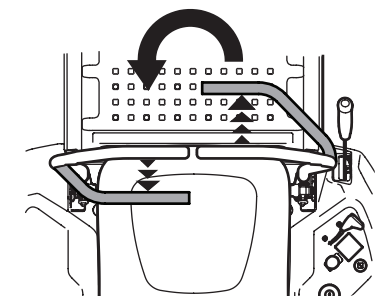

Figure 34
3. To turn counter-clockwise, move the lapbar right drive control lever forward while simultaneously moving the left lapbar drive control lever rearward. See Figure 34.